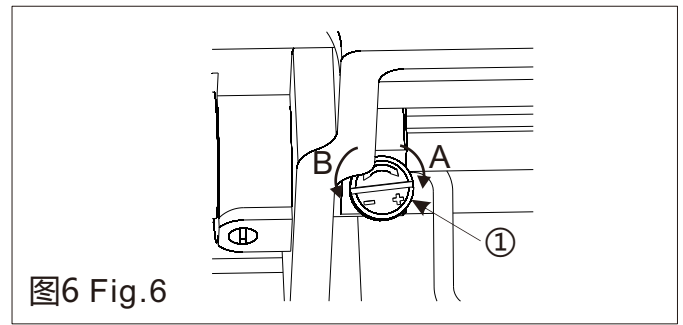
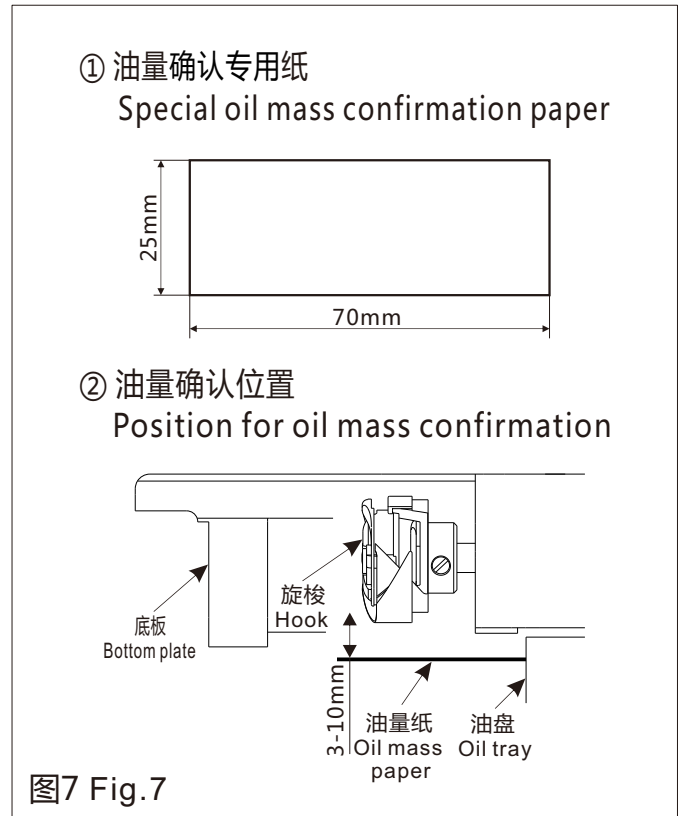
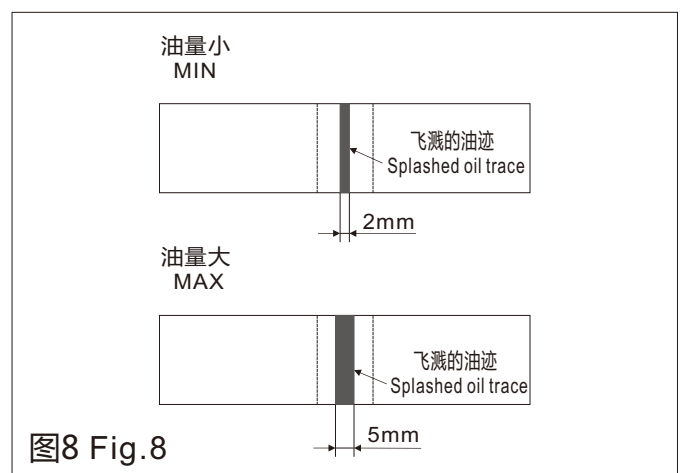

图6 Fig.6
图7 Fig.7
图8 Fig.8
6 旋梭油量调节 (图6、图7、图8) Oil mass Adjustment of Rotating Hook (Fig. 6, Fig. 7, Fig. 8)
2) 请在缝纫机转动时将油量确认专用纸插入(具体操作见图8所示)。
2) Insert the special oil mass confirmation paper when the sewing machine is rotating (detailed operations are described in Fig. 8).
1) 右图标样(见图8)根据不同的缝制工序需求进行增或减的微调整，但应注意不要增加或减少过多。油量过少时会引起旋梭发热，油量过多时会污染缝料。
1) The guide sample shown in the right-hand figure (see Fig. 8) may be finely adjusted (increased or reduced) as per different sewing processes; however, excessive increase or reduction shall be avoided. Too little oil mass may lead to rotating hook heating, and overmuch oil mass may lead to contamination of the sewing materials.